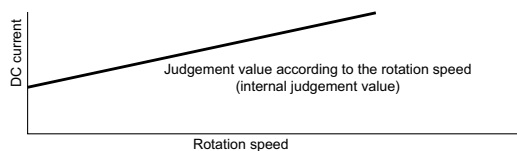

Fig. 6-4
Fig. 6-4 shows the rotation speed control. When the voltage at pin ⑥ of the microcomputer exceeds the set value, the microcomputer decreases the rotation speed of the compressor and reduces the load.